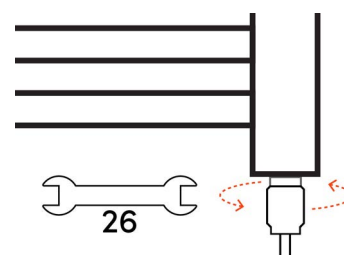

Figure 5 | Tighten element at main nut
5. Tighten the element at the main nut, using a size 26 spanner (**Figure 5**, right).